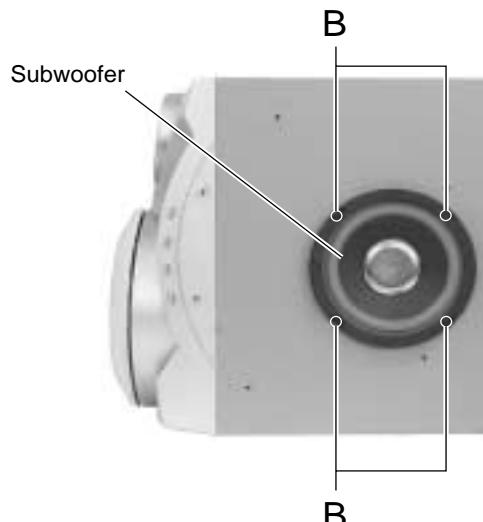

Fig.2
■ Removing the subwoofer (See Fig.2)